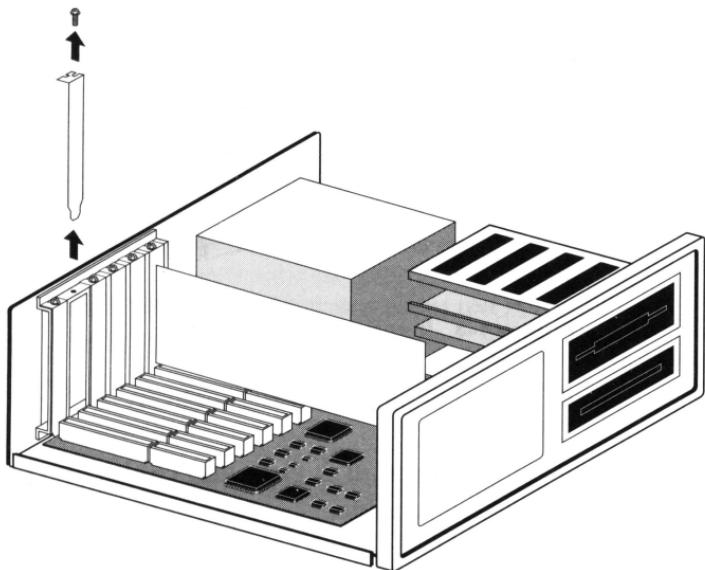

Figure 1-3. Removing the Backplate
3. Remove the expansion slot's backplate, as shown in Figure 1-3.